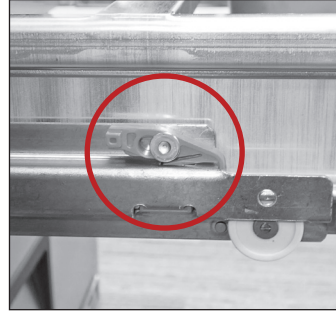

Fig. 5. Drawer retainer location. Retainer is engaged.
1. Slide the drawer out and locate the plastic drawer retainer. See fig. 5